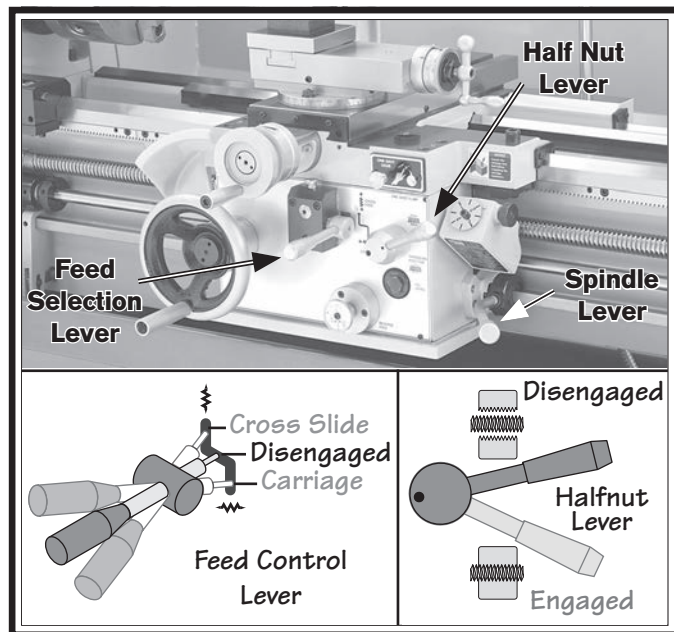

Figure 26. Disengaging carriage components.
10. To ensure the carriage components do not unexpectedly move during the following steps, disengage the half nut lever and feed selection lever (see **Figure 26**).